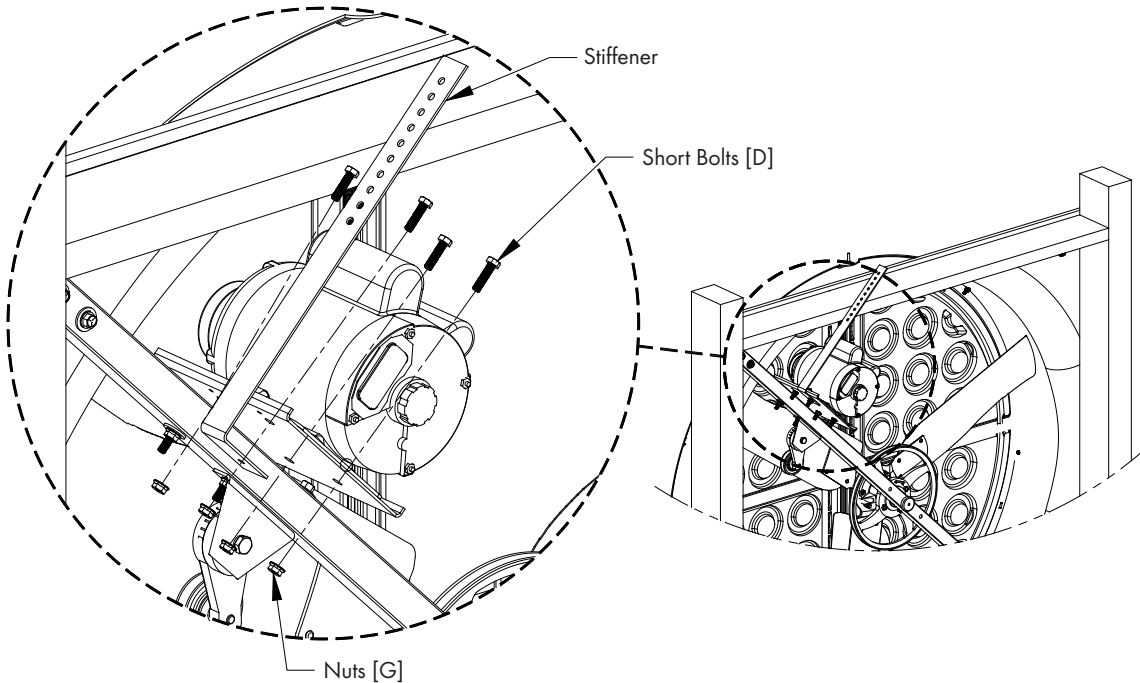

Figure 8A
Secure Motor to Motor Bracket and Motor Bracket Stiffener using (4) Short Bolts [D] and Nuts [G]. The rear upper bolt is where Motor Bracket Stiffener is attached. See Figure 8A.